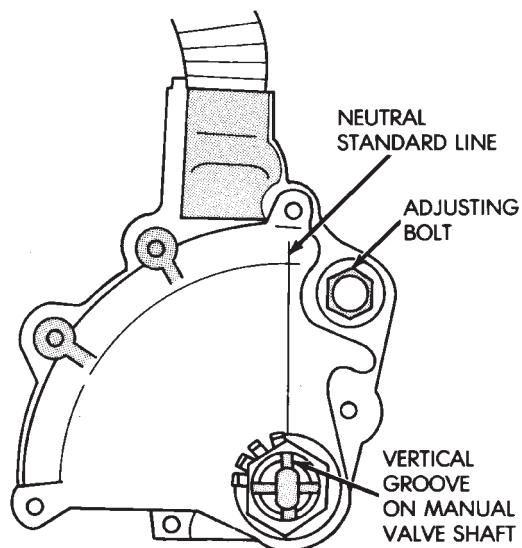

Fig. 68 Park/Neutral Position Switch Installation/Adjustment
(92) Install transmission shift lever on manual valve shaft. Do not install lever attaching nut at this time.
(93) Move transmission shift lever fully rearward. Then move lever two detent positions forward.
(94) Mount park/neutral position switch on manual valve shaft and tighten switch adjusting bolt just enough to keep switch from moving (Fig. 68).
(95) Install park/neutral position switch tabbed washer and retaining nut (Fig. 68). Tighten nut to 6.9 N•m (61 in. lbs.) torque, but do not bend any of the washer tabs against the nut at this time.
(96) Align park/neutral position switch standard line with groove or flat on manual shaft (Fig. 68).